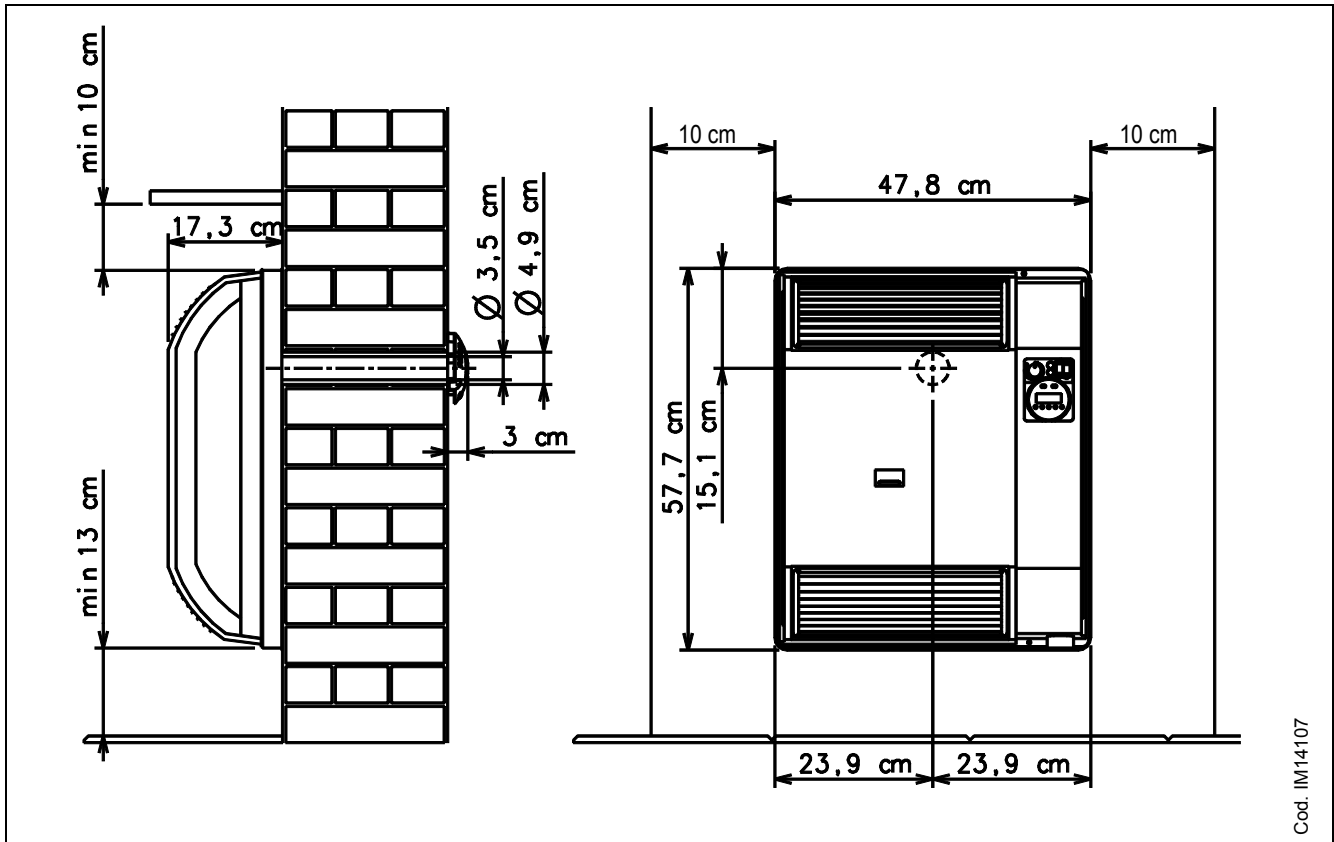

Figure 1 – EXTERNAL DIMENSIONS AND INSTALLATION LIMITS FOR MODELS 3001 AND 3002
1. The unit has to be installed on a perimetral wall taking into account the maximum distances shown in Figure 1 (for 3001 and 3002 models) in Figure 2 (for 4001, 4002, 5001 and 5002 models) and in Figure 3 (for 8001 and 8002 models). This is in order to have the necessary access space should it be required. The minimum suggested bottom line from the floor is 50 mm or 130 mm depending on the model (see Figure 1, Figure 2 and Figure 3). The maximum installation distance should not exceed 350 mm. In case of installation over this distance the distribution of heat in the room will not be uniform.